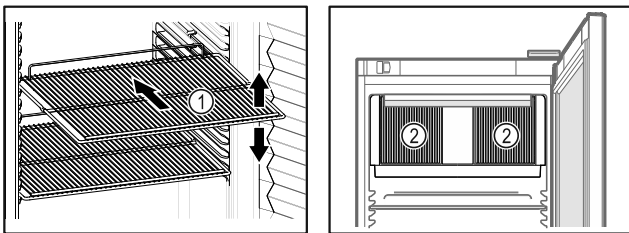

Fig. 40 Example illustration Fig. 41
- If there are adjustable shelves Fig. 40 (1), position them as required.